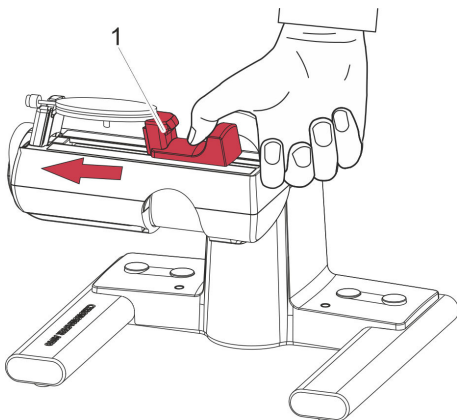

Fig. 20: Letting go of the clamping jaw
3. ➤ Carefully guide the clamping jaw (Fig. 20/1) to the watch movement.